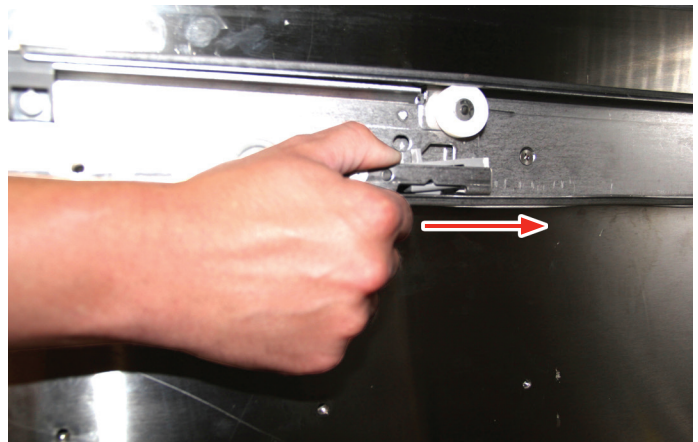

Fig. 19
6. Push back on the slider lock to release the lock (Fig. 19).